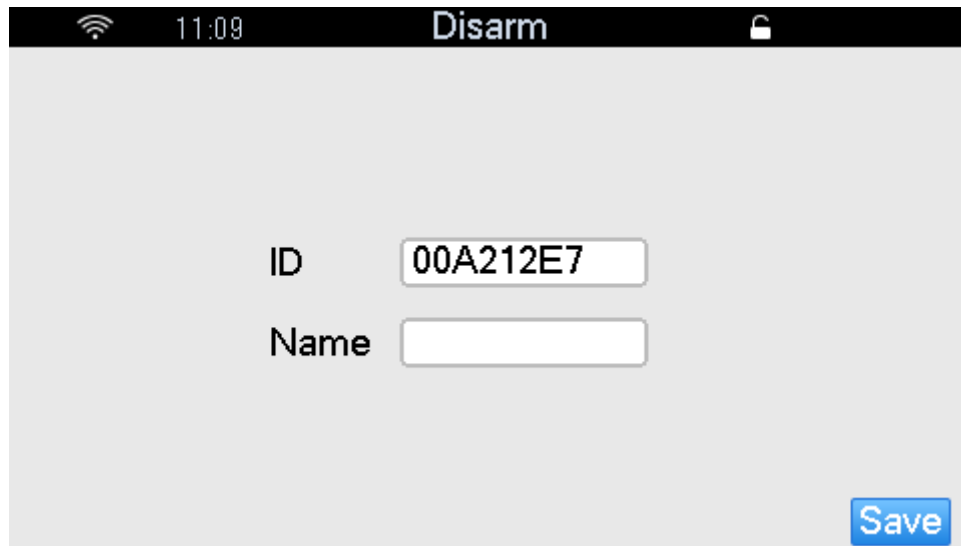

Figure 4-21
- Step 3 Press [↗] or [↘], select  and press [OK]. Enter card-swiping interface, as shown in Figure 4-21.